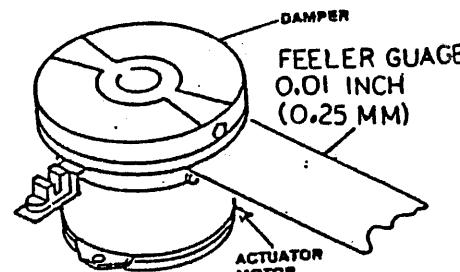

Figure 3-33
6. Tighten set screw rotate  $90^{\circ}$  and tighten second set screw. (See Figure 3-33).